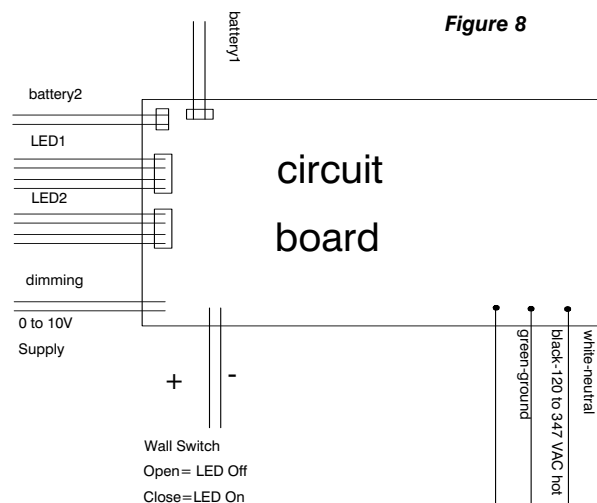

Figure 8
7. **EM and AC EM units only:** Complete the battery connection by plugging the 2-position battery connector into the PCB (Figure 4). Two-wire wall switch control is available in AC EM unit (Figure 8). For multiple fixtures controlled by a single wall switch, connect same polarity to the same side of switch.
9. Make the appropriate AC voltage connection (Figure 8).